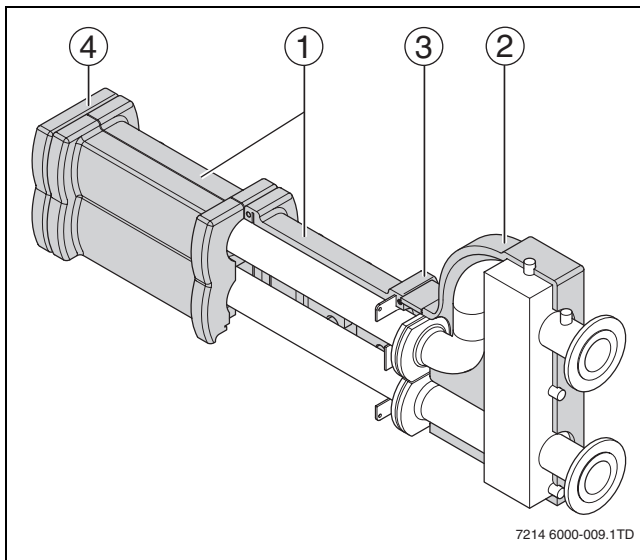

Fig. 9 Sammelleitung
- ▶ Install the front insulation of the low loss header. If required, trim the insulation so that it is straight (→ fig. 9, [3]).
- ▶ Install the end cover over the header (→ fig. 9, [4]).